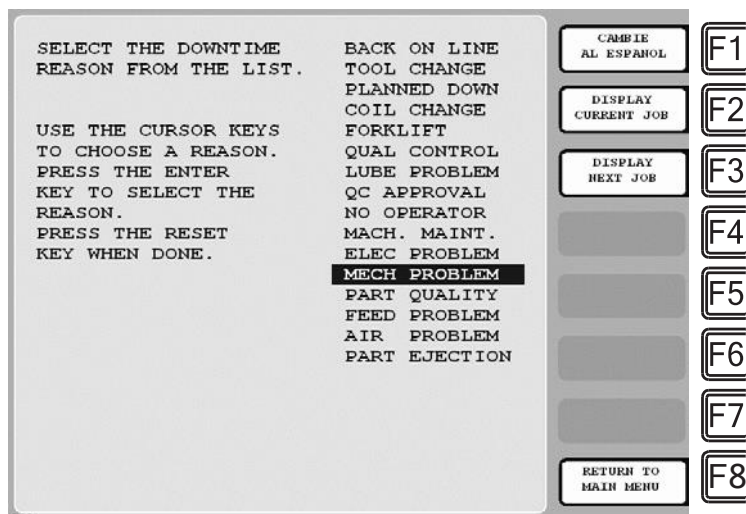

Figure 1-6 - Dialog Menu
2. Highlight the downtime reason you want (in *Figure 1-6*, MECH PROBLEM is selected as an example) using the cursor keys, and press “ENTER”. The SmartPAC will display a message stating that the downtime reason has been sent to the host computer.